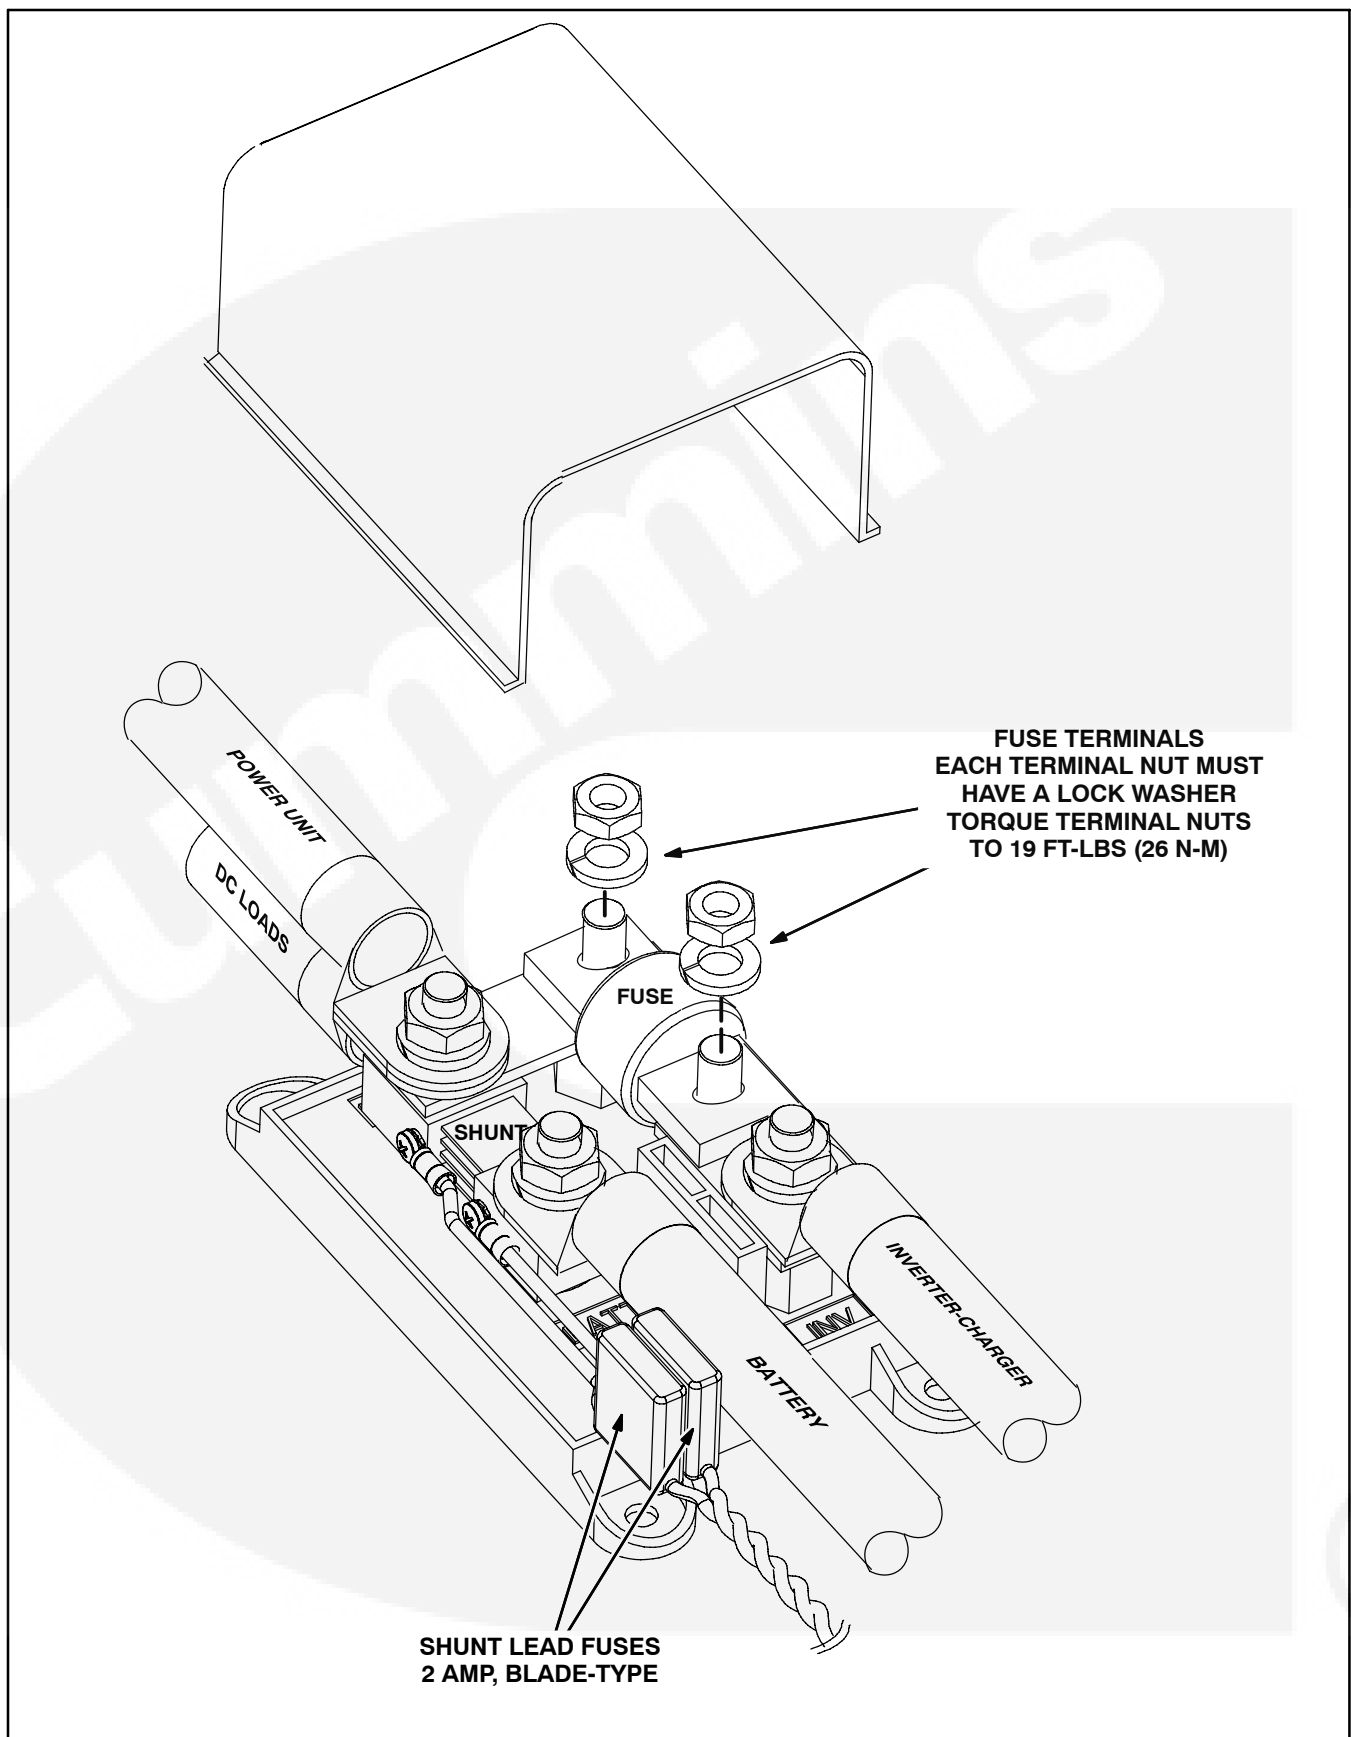

FIGURE 6-2. REPLACING BATTERY FUSE
The Shunt/Fuse block (Figure 6-2) is mounted near the positive (+) terminal of the Coach Batteries.
3. Remove the battery fuse cover from the fuse block (Figure 6-2).